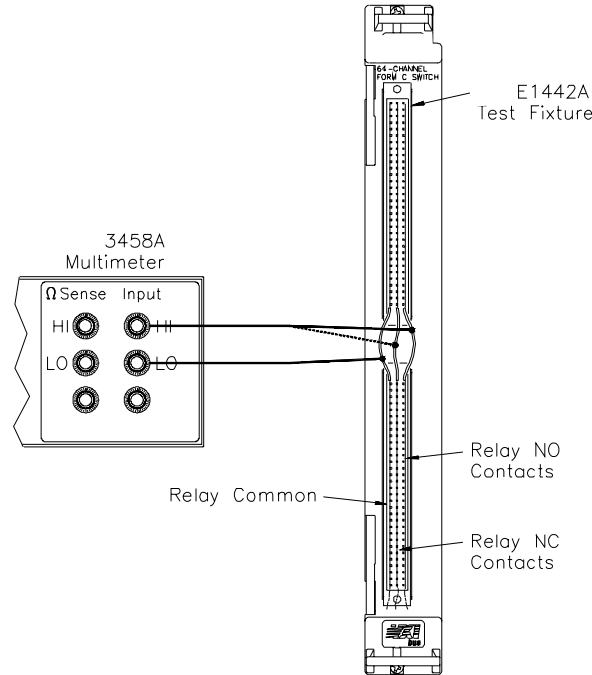

Figure 2-4. COMMON to NO DC Isolation Hardware Setup
1. **Hardware Connections.** See Figure 2-4.
4. **Change the Hardware Connections.** See Figure 2-4.